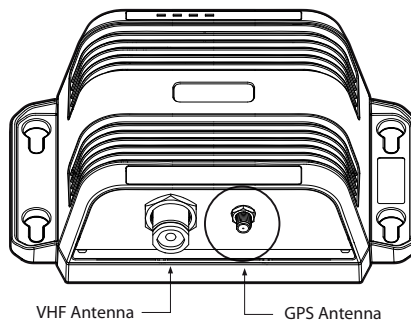

*Figure 7 GPS antenna mounting*
- Mount the pole into position as shown in Figure 7.